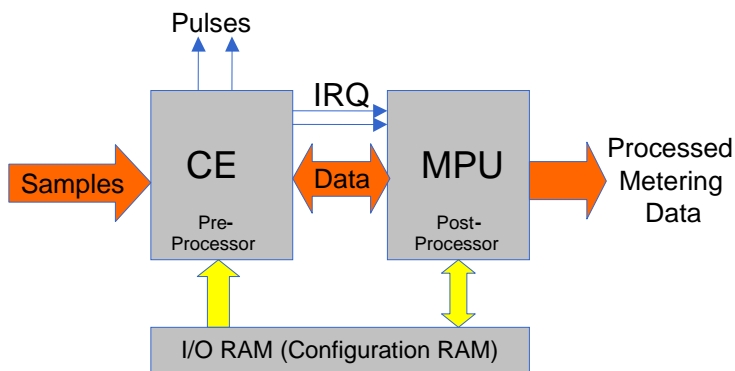

Figure 28: MPU/CE Data Flow
The data flow between the Compute Engine (CE) and the MPU is shown in Figure 28. In a typical application, the 32-bit CE sequentially processes the samples from the voltage inputs on pins IA, VA, IB, and VB, performing calculations to measure active power (Wh), reactive power (VARh),  $A^2h$ , and  $V^2h$  for four-quadrant metering. These measurements are then accessed by the MPU, processed further and output using the peripheral devices available to the MPU. Figure 28 illustrates the CE/MPU data flow.